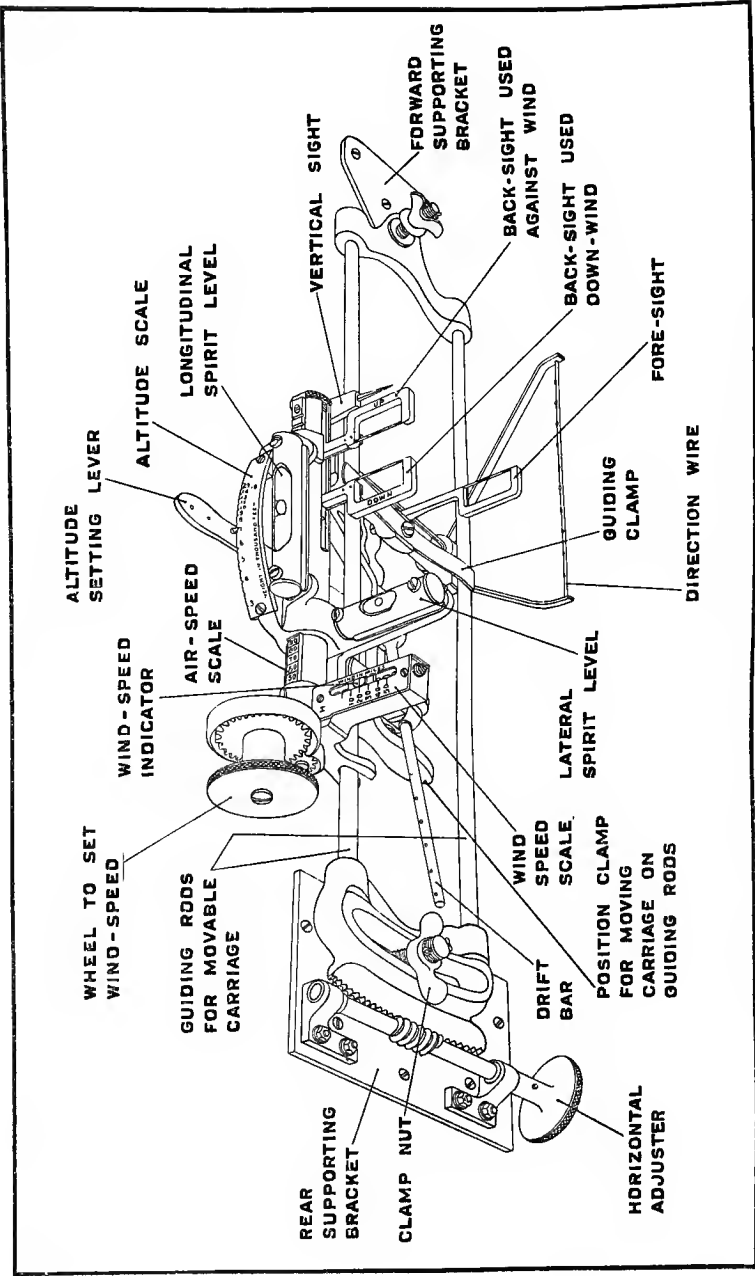

Figure 7. The U. S. Army Wimperis-Type Bomb-Sight Mark IA
A drift-bar is nothing more than a horizontal bar capable of rotation about a vertical axis. See Figure 7, page 80.
61. A pilot is flying a straight course directly away from the wind. Which way must he turn in order to make use of the drift-bar of the bomb-sight shown in Figure 7?
A pilot using the Wimperis-type bomb-sight must approach the target either directly up-wind or directly down-wind. If at the instant the bomb is released the course of the plane is such as would carry it directly over the target there will be no "line" or direction error. Direction sighting is accomplished by means of the direction wire and the bubble of the lateral spirit level. The direction wire is fixed in position parallel to the axis of the fuselage. The lateral spirit-level is for the purpose of making the line of sight past the direction wire vertical. See Figure 7, page 80.